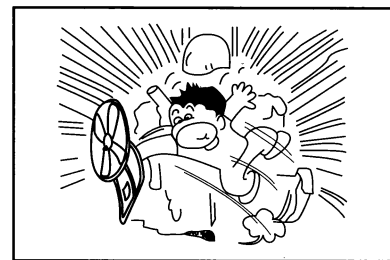

Figure 2-14
- Never touch the rotating leafs of the fan or the fan belt as it is very dangerous. (Figure 2-14)